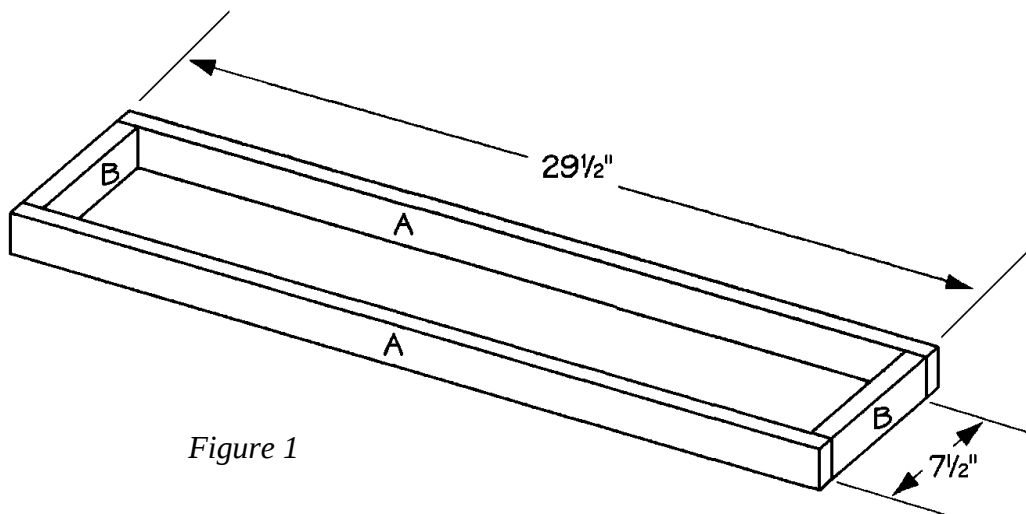

Figure 1
1. Cut four long supports (A) from 1 x 2 pine, each measuring 29-1/2 inches long.
2. Cut four short supports (B) from 1 x 2 pine, each measuring 7-1/2 inches long.
3. Place two long supports (A) on a level surface, parallel to each other and 7-1/2 inches apart. Fit two short supports (B) between the long supports (A), as shown in *Figure 1*. Apply glue to the meeting surfaces and nail through the long supports (A) into the ends of the short supports (B). Use two 1-1/4" long nails on each joint.